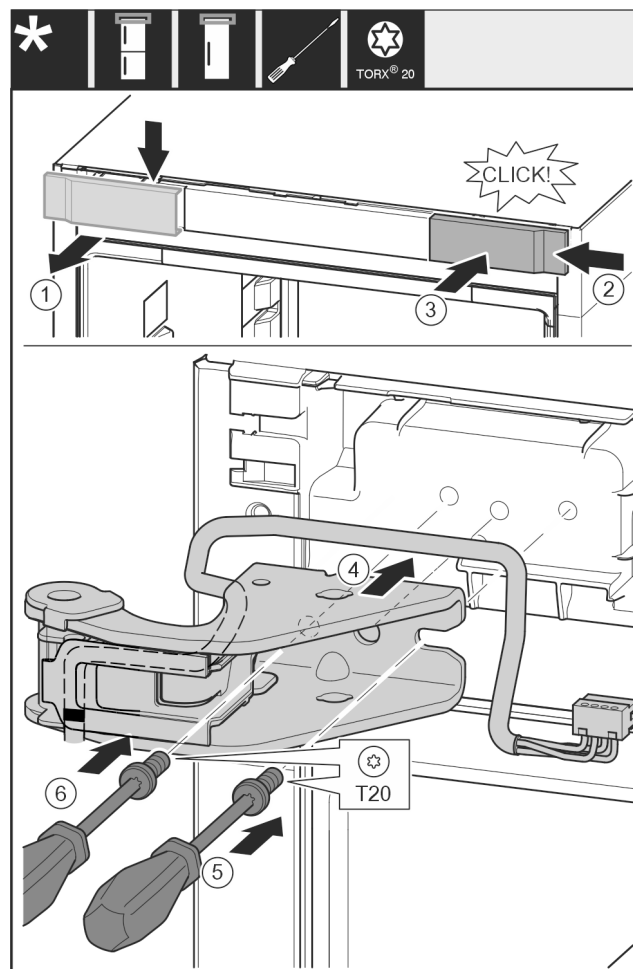

Fig. 34
- ▶ Remove the cover Fig. 34 (1) from above towards the front.
- ▶ Turn the cover Fig. 34 (2) by 180° and attach to the other side from the right.
- ▶ Engage the cover Fig. 34 (3).
- ▶ Place the top swap bearing block Fig. 34 (4).
- ▶ Use screwdriver Fig. 34 (5) to place the screw and tighten it.
- ▶ Use screwdriver Fig. 34 (6) to place the screw and tighten it.